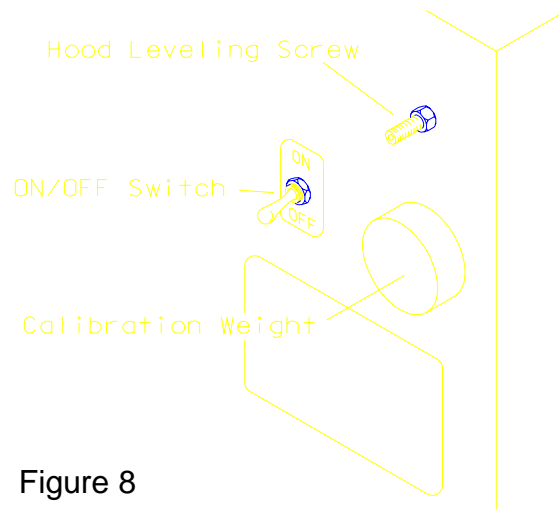

Figure 8
For recalibration, use the calibration weight supplied. Refer to Figure 8.
- Locate and remove the calibration weight located on the back of the machine. Figure 8
- Remove the calibration weight and return it to its storage location on the back left of the machine. Figure 8